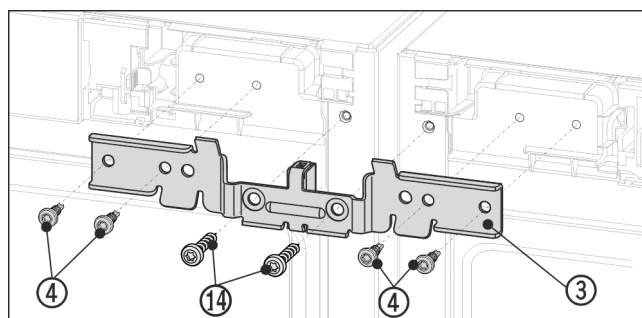

Fig. 12 Example illustration
- ▶ Slide the bracket *Fig. 12 (3)* with the spacer between the appliances onto the pins. Loosely screw on the bracket with four screws *Fig. 12 (4)* and the previously unscrewed grounding screws *Fig. 12 (14)* alternately on the right and left.